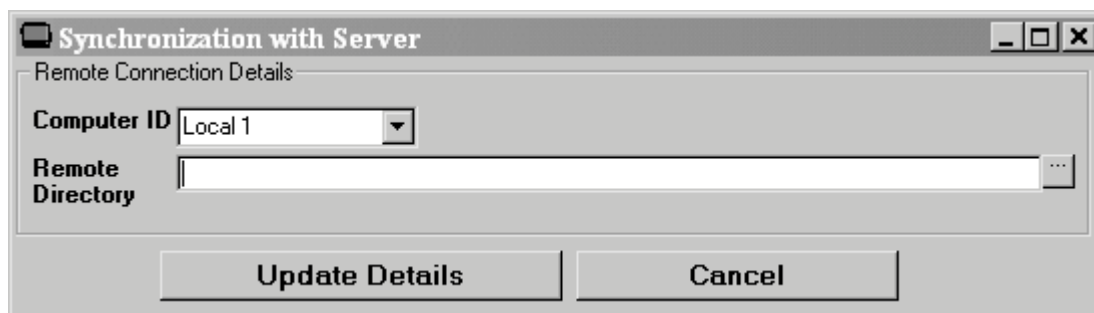

Figure 9. Synchronization Window
In a large Q-Controls management department, it may be advantageous for a number of people to use the same customer database and screen files. The management software allows you to synchronize the same database of client files on multiple computers across a network. To use the management software's file synchronization features you must identify each computer in your network. See figure 9.
1. From the menu bar, choose Update then Server Details. The Synchronization With Server dialog box is shown. See figure 9.